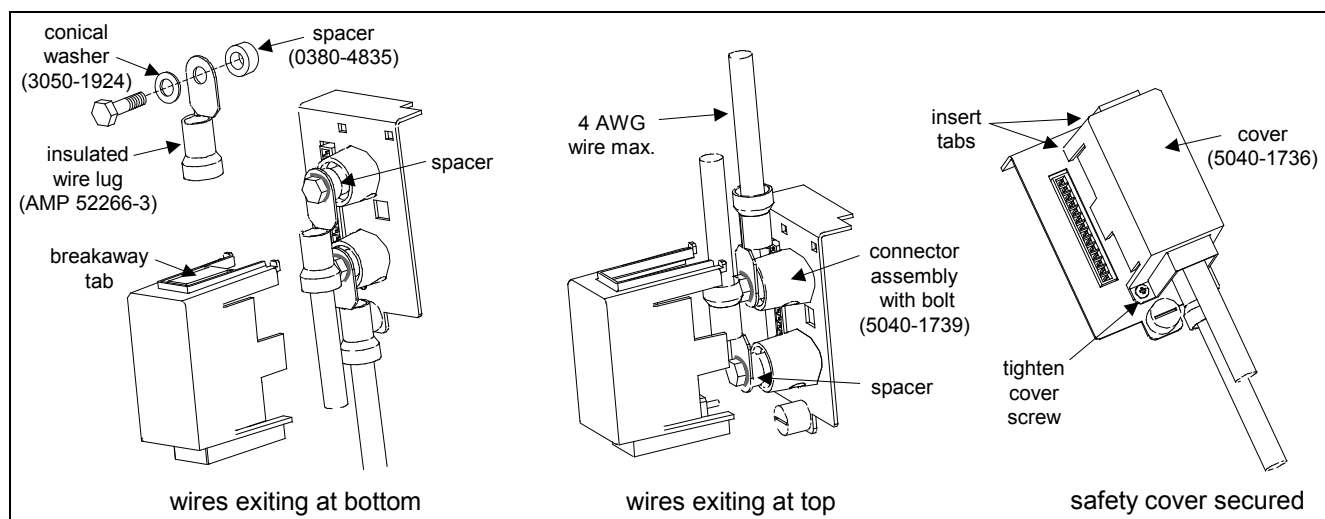

Figure 3-6b. 8mm Screw Terminal Connectors
Two 8mm-diameter bolts (+ and –) are provided on each module for connecting the input wires (see figure 3-6b). Connections are made as follows:
3. Attach the wire lugs to the connector. Place the conical washer *between* the bolt and the wire lug (refer to the exploded view in the upper left corner of figure 3-6b). The wires can exit either out of the top or out of the bottom. Place the supplied spacer *under* the appropriate wire lug to prevent interference between the wires. If the wires exit out of the top, place the spacer on the bottom terminal. If the wires exit out of the bottom, place the spacer on the top terminal.